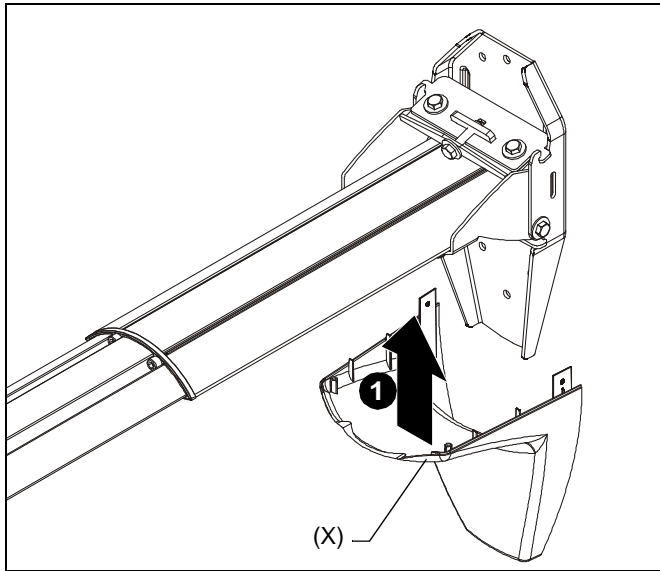

Figure 12
1. Raise lower cover (X) up to WMA1S. (See Figure 12)